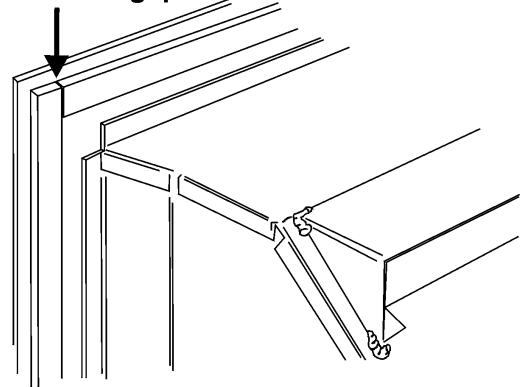

Figure 7. Fitting the foam seal.
4. Three strips of self adhesive foam sealing material are supplied. Remove the protective backing from the seals and fit them to the rear of the convection box top and side flanges as in figure 7. Ensure that there is no gap between the seals where they meet and that there is full contact with the fireplace front.